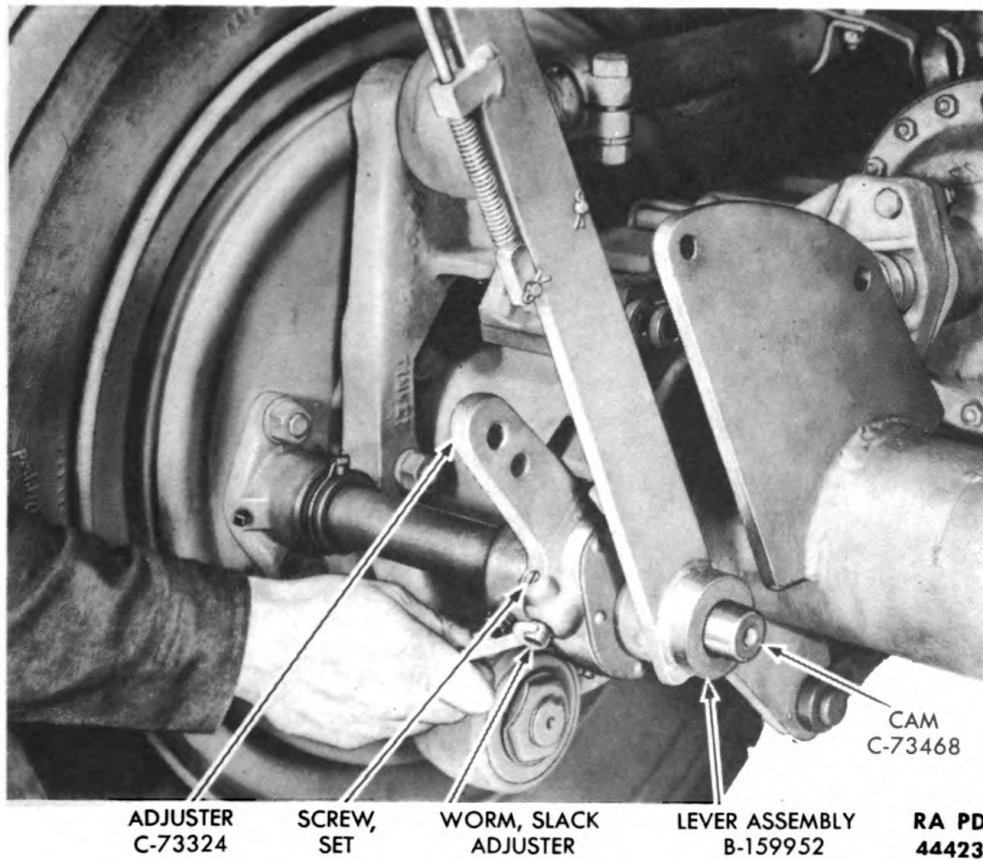

Figure 251—Turning Slack Adjuster
(5) Loosen slack adjuster set screw (fig. 251) and turn slack ad-